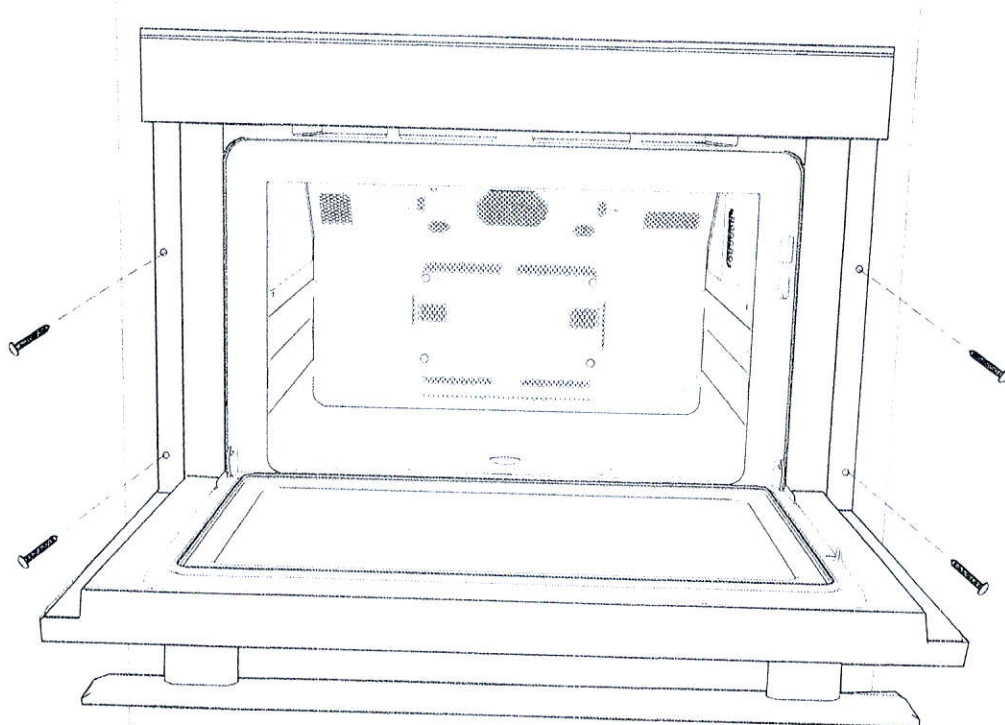

Figure 6
3. Slide the oven all the way until the mounting flange is flush with the face of the cabinet. See Figure 6.
4. Open the door. Using the 4 holes on the oven as a template, pre-drill the cabinet using a 1/16" bit. See Figure 6.
5. Secure the SuperSteam+ Oven with the 4 screws supplied. See Figure 6.